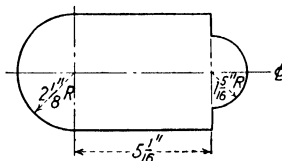

Fig. 64.
5. Find the perimeter of the flat plate shown in Fig. 64.